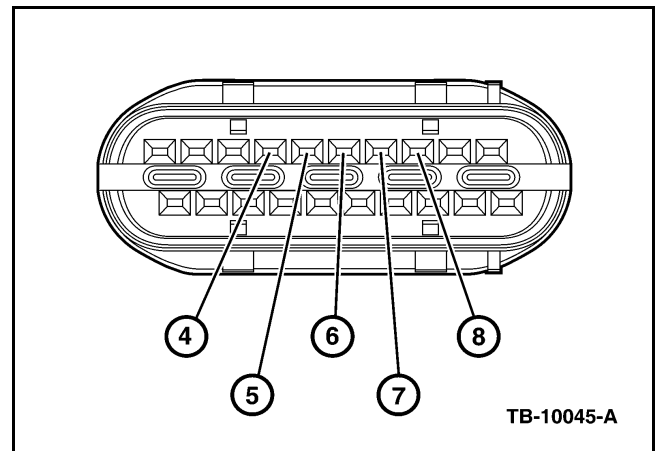

Figure 1 - Article 13-5-27
- a. The top row of the transmission's pins are numbered 1-10 from left to right. (Figure 1)